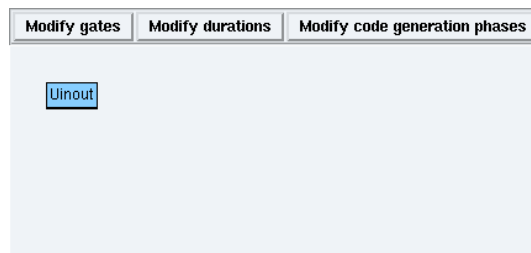

Figure 1.13: Operator definition window
- from the main window, choose **Architecture / Define Operator**. It opens a dialog window, type Uinout and click **OK**. It opens the operator definition window (cf. figure 1.13);